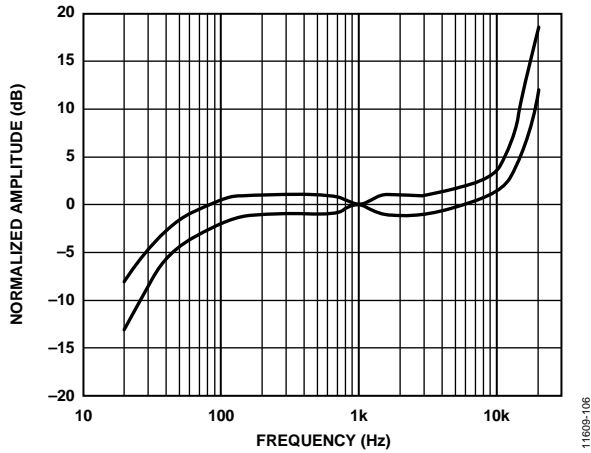
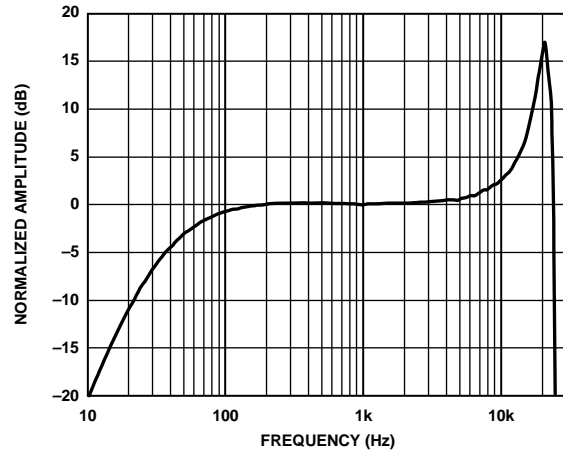

Figure 4. Frequency Response Mask
Figure 5. Typical Frequency Response (Measured)
**Note 3:** See Figure 4 and Figure 5.